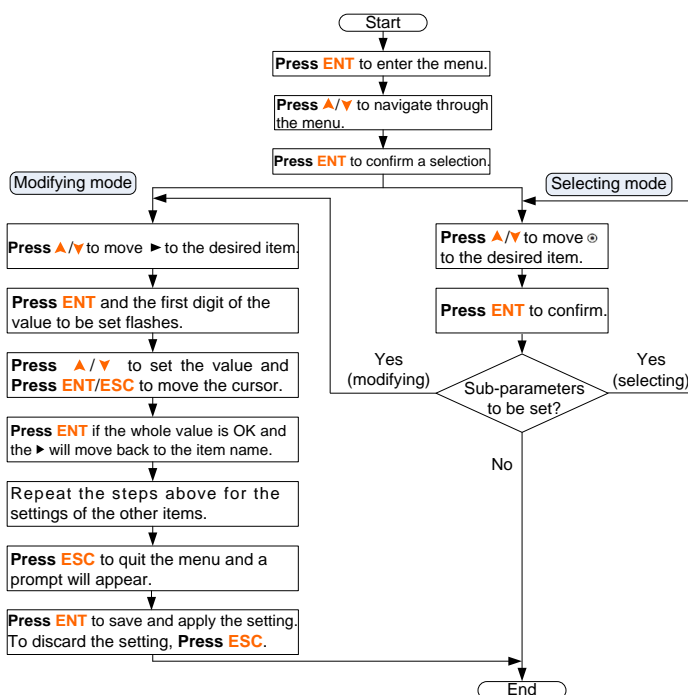
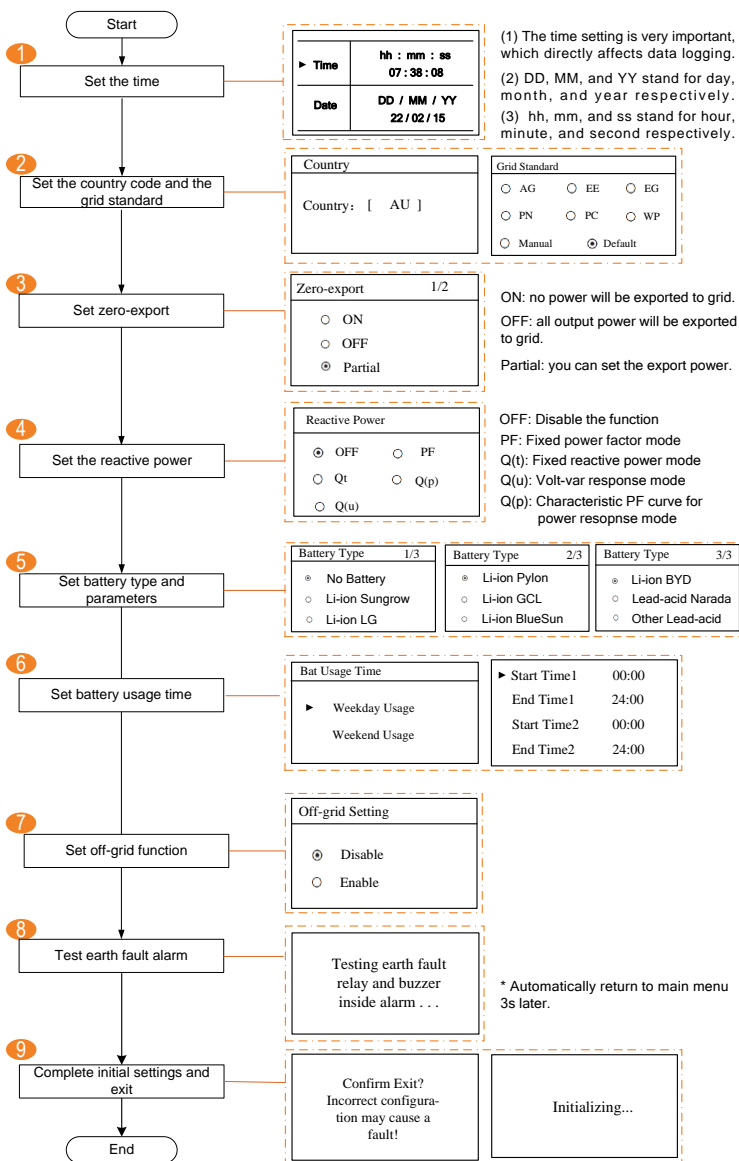

Fig. 3-1 Button Operations
Fig. 3-2 Initial Settings
6. Refer to **Fig. 3-1** for button operations and complete all initial settings according to the procedure in **Fig. 3-2**.